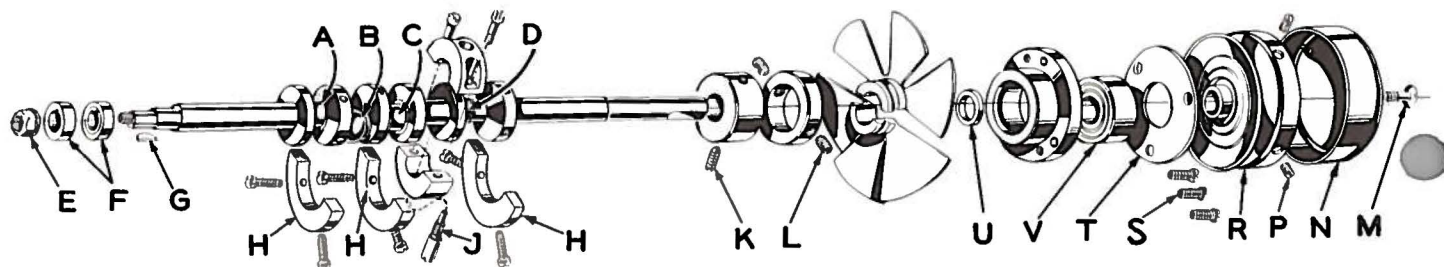
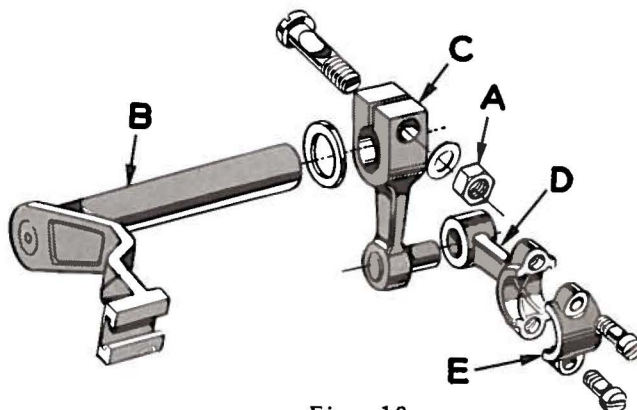

Fig. 17
Fig. 18
3. Remove feed eccentric nut (E, Fig. 17) and, with the aid of the eccentric extractor, slip off the eccentrics (F).
4. Remove key (G).
5. Remove three counterweights (H). Identify these counterweights so that they will be re-assembled in the proper places.
6. Remove screw (J) which holds crankshaft split bearing. This screw is reached through bottom of bed casting.
8. Loosen clamp nut (A, Fig. 18) which holds upper knife driving arm (B). Access to clamp nut is through top cover. Draw driving arm to the left until upper knife driving lever (C) and connecting rod (D) drop, allowing removal of bearing cap (E). This is at bearing point (C, Fig. 17) on crankshaft. Observe same precautions when re-assembling cap as described in 7 above.
9. Remove screw (K, Fig. 17) which holds inner right crankshaft bearing. This screw is reached through bottom of bed casting.
10. Loosen two screws (L) in fan collar; remove both halves of cooling fan.
11. Remove screw (M); take off pulley cap (N).
12. Loosen two screws (P); remove pulley (R).
13. Remove three screws (S); take off bearing retaining plate (T).
15. If necessary to replace ball bearing (V), it should be pressed off shaft on an arbor press. In replacing bearing it must be pressed on carefully until it seats against ground thrust washer (U).